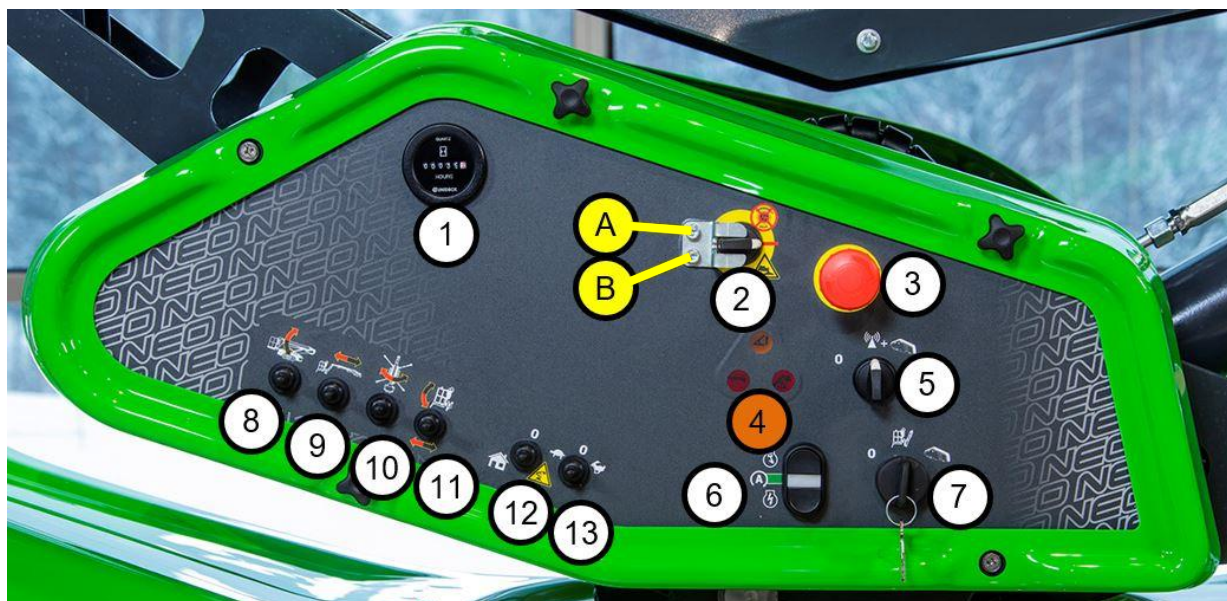

Figure 8 Lower controls panel
1. The ignition key (figure 8, switch 7) must be turned to lower control position
2. Turn on combustion engine or electric motor with the start switch (figure 8, switch 6)
3. To use the booms (figure 8, switches 8-11), you must also select movement speed with the speed selector switch (switch 13).
1. Switch on the machine by turning the ignition switch (figure 8) and select preferred control position (lower controls or platform controls)
6. Use choke only if the petrol engine doesn't start automatically (figure 7, switch 21 or lower controls figure 8, switch 8)